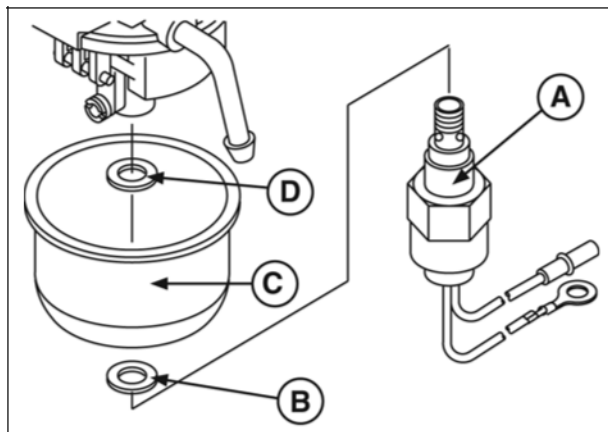

Figure 28
1. Remove fuel shut off solenoid (A, Figure 28) and gasket (B). Remove float bowl (C) and bowl shim gasket (D).